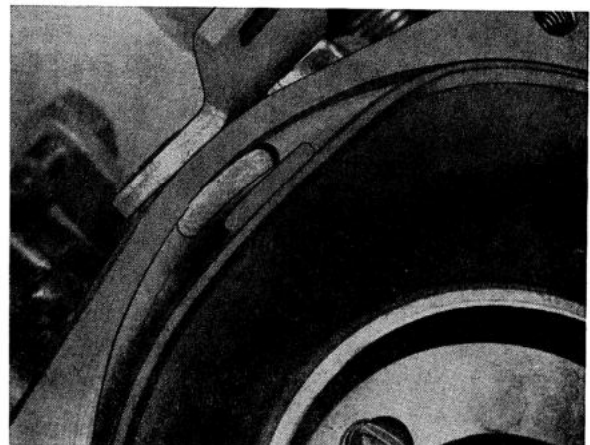

Fig. 2-84. Diaphragm in carburettor housing
4. Move the air valve down and fit in the rubber register as shown in Fig. 2-84. Fit the cover and fill with damper oil.